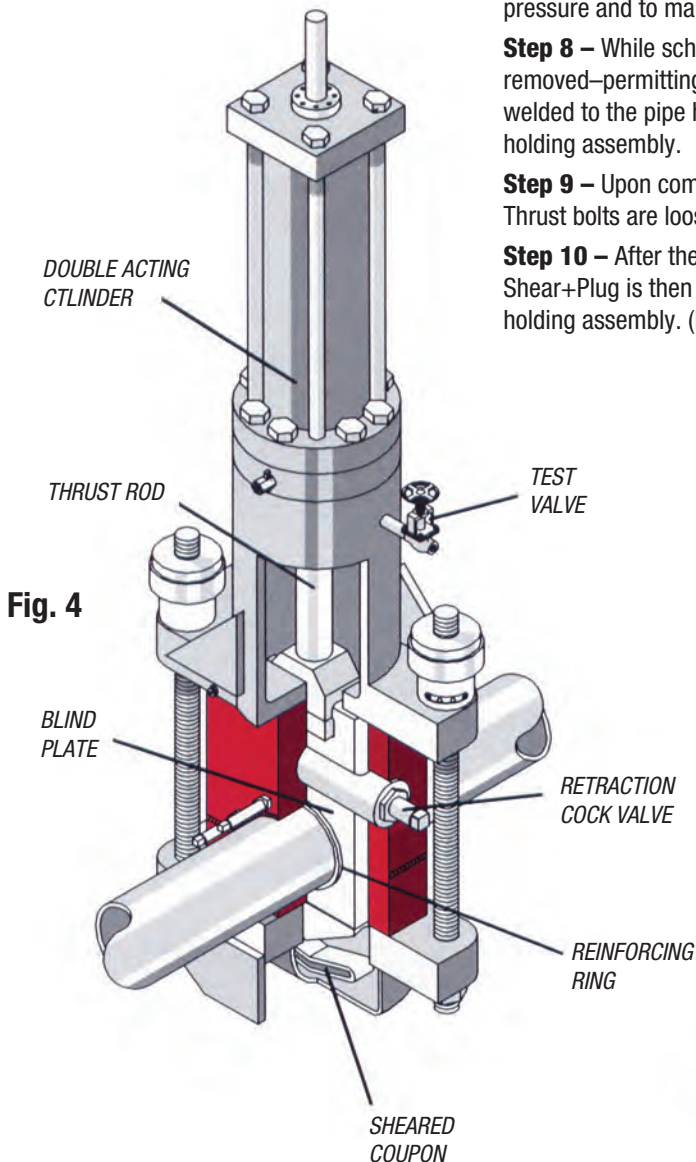

Fig. 4
Step 6 – The hydraulic cylinder is actuated, thrusting the shear blade through the pipe and pushing the coupon into the coupon receptacle housing, allowing retrieval of the entire coupon (Fig. 4).